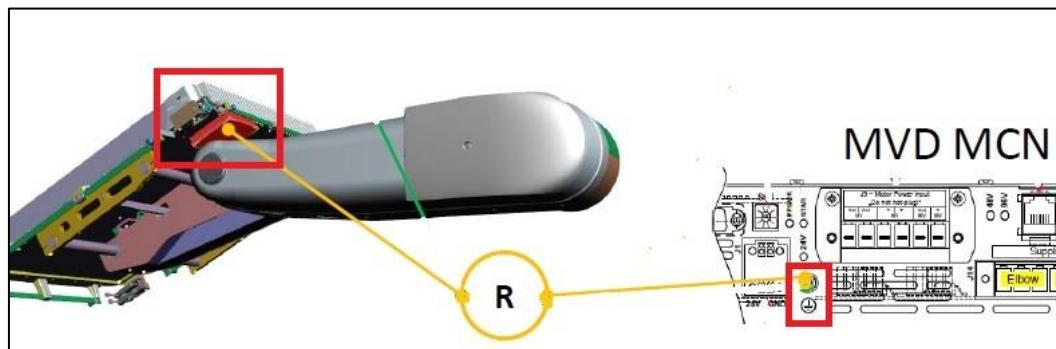

Figure 34: Measuring Chassis to Ground Resistance of DMI Panel
3. Using DVM, measure the resistance between the power supply chassis of the DMI panel and the ground point of the MVD MCN (see Figure 34).